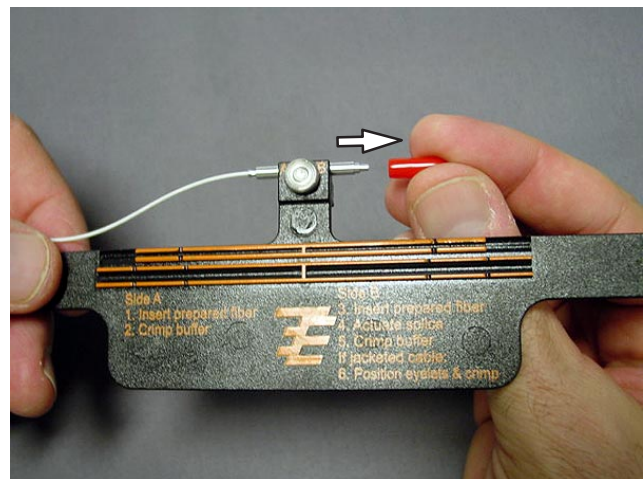

Figure 16
4. Remove the cap from the splice on side B. See Figure 16.